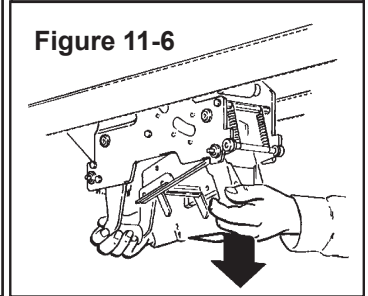

Figure 11-6
3. Hold upper taping head applying and buffing arms from under upper assembly, slide head forward and down to remove (**Figure 11-6**).